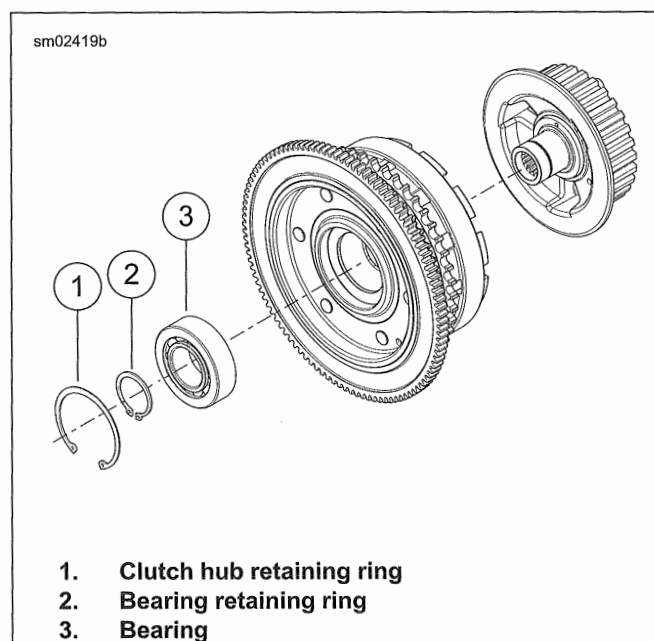

Figure 5-22. Clutch Retaining Rings
- a. See Figure 5-22. Remove clutch hub retaining ring (2).
- a. See Figure 5-22. Remove bearing retaining ring (1) from groove in clutch shell bore.
- d. See Figure 5-22. Install bearing retaining ring (1) with flat side toward bearing.
- e. See Refer to Figure 5-22.. Install clutch hub retaining ring (2) in groove of clutch hub.